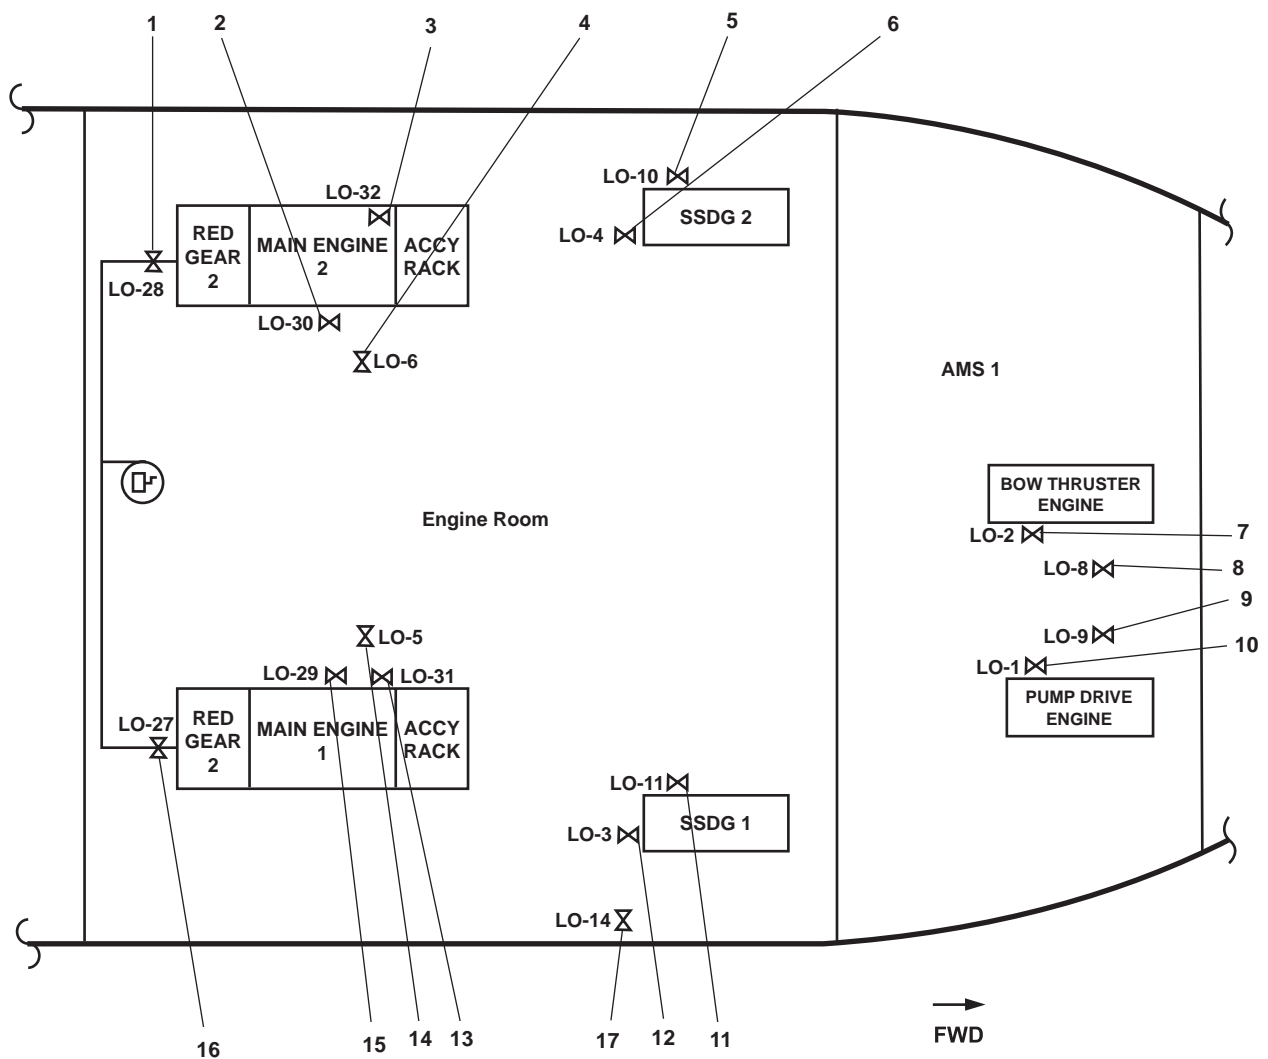

Figure 6. Lube Oil System Valve Locations
- a. Lo-28, LUBO DR. FR. RED. GEAR No. 2 (figure 6, item 1)
- (1) Lo-30, M.E. No. 2 - LUBO PUR. SUCT (figure 6, item 2)
- (2) Lo-32, M.E. No. 2 - LUBO PUR DISCH. / FILL. (figure 6, item 3)
- (3) Lo-6, LUBO DR TO OILY DR. TK. (figure 6, item 4)
- (1) Lo-10, LUBO TO S.S.D.G No. 2 (figure 6, item 5)
- (2) Lo-4, LUBO DR TO OILY DR. TK. (figure 6, item 6)
- (1) Lo-2, LUBO DR TO OILY DR. TK. (figure 6, item 7)
- (2) Lo-8, LUBO TO BOW THRUSTER ENG. (figure 6, item 8)
- (1) Lo-9, LUBO TO PUMP DRIVE ENG. (figure 6, item 9).
- (2) Lo-1, LUBO DR TO OILY DR. TK. (figure 6, item 10).
- (1) Lo-11, LUBO TO S.S.D.G. No. 1 (figure 6, item 11).
- (2) Lo-3, LUBO DR TO OILY DR. TK. (figure 6, item 12).
- (1) Lo-31, M.E. No. 1 - LUBO PUR DISCH. / FILL (figure 6, item 13).
- (2) Lo-5, LUBO DR TO OILY DR. TK. (figure 6, item 14).
- (3) Lo-29, M.E. No. 1 - LUBO PUR. SUCT (figure 6, item 15).
- h. Lo-27, LUBO DR. FR. RED. GEAR No. 1 (figure 6, item 16).
- i. Lo-14, LUBO XFER. TO OILY WST. STOR. TK. (figure 6, item 17), located on the starboard engine room bulkhead, aft of SSDG 1.